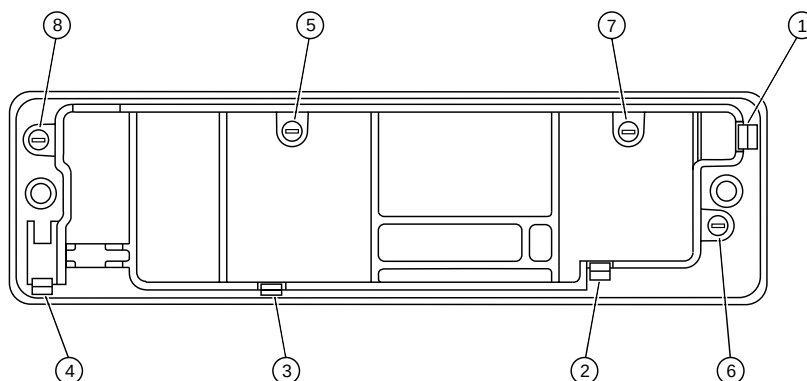

Figure 5-2. Model W4 Rotary Control Head Assembly Screw and Snap Sequence
- W4 Control Head: four screws [callouts 5-8], as shown in Figure 5-2.
The W4 control head has, in addition to the screws, four snap features [callouts 1-4], which are shown in Figure 5-2.